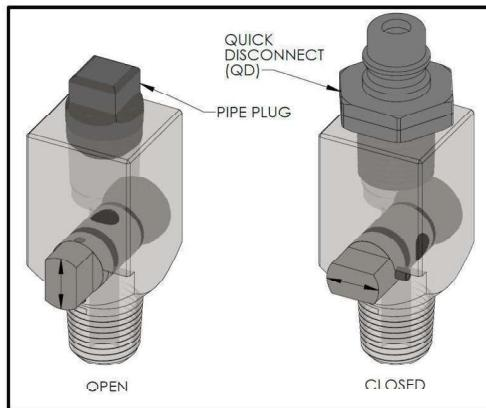

Figure 3
4. Close all sealant injection ports as shown in Figure 3.
- To make sealant injection faster and easier on fittings requiring more than 2 j-sticks, quick disconnect adapters have been added to the newest PLIDCO Sealant Injection Pump kits. Screw in the quick disconnect adapters directly into the sealant injection port as shown in Figure 3. If you have an existing unit, and would like to upgrade, contact PLIDCO regarding the upgrade kit.